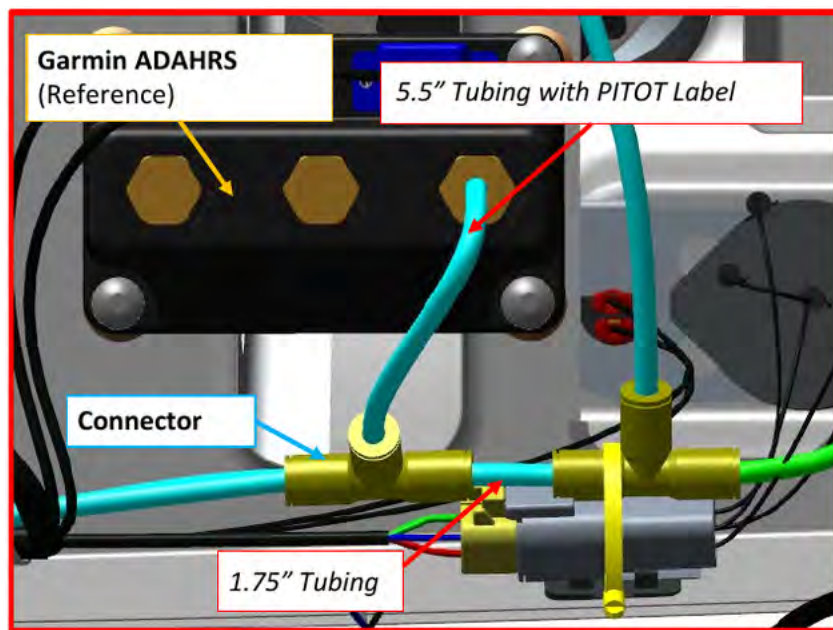

FIGURE 14-53
2. Remove tubing with PITOT label from LH port of the Garmin ADAHRS. (See Figure 14-53.)